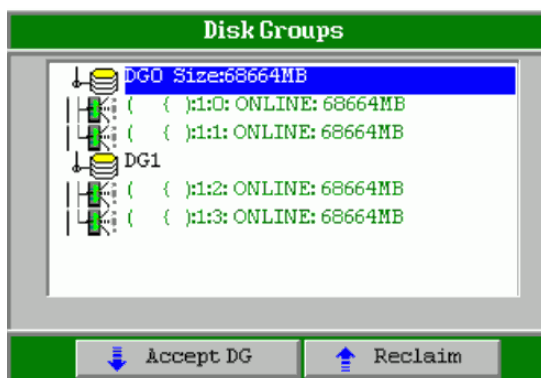

Figure 3-74 WebBIOS: Configuration Wizard custom DG definition
- c. Confirm this disk group by clicking on the **Accept DG** button, shown in Figure 3-74 on page 184. The WebBIOS increases the disk groups and allows you to assign more disks. Repeat this step if you want another disk group.